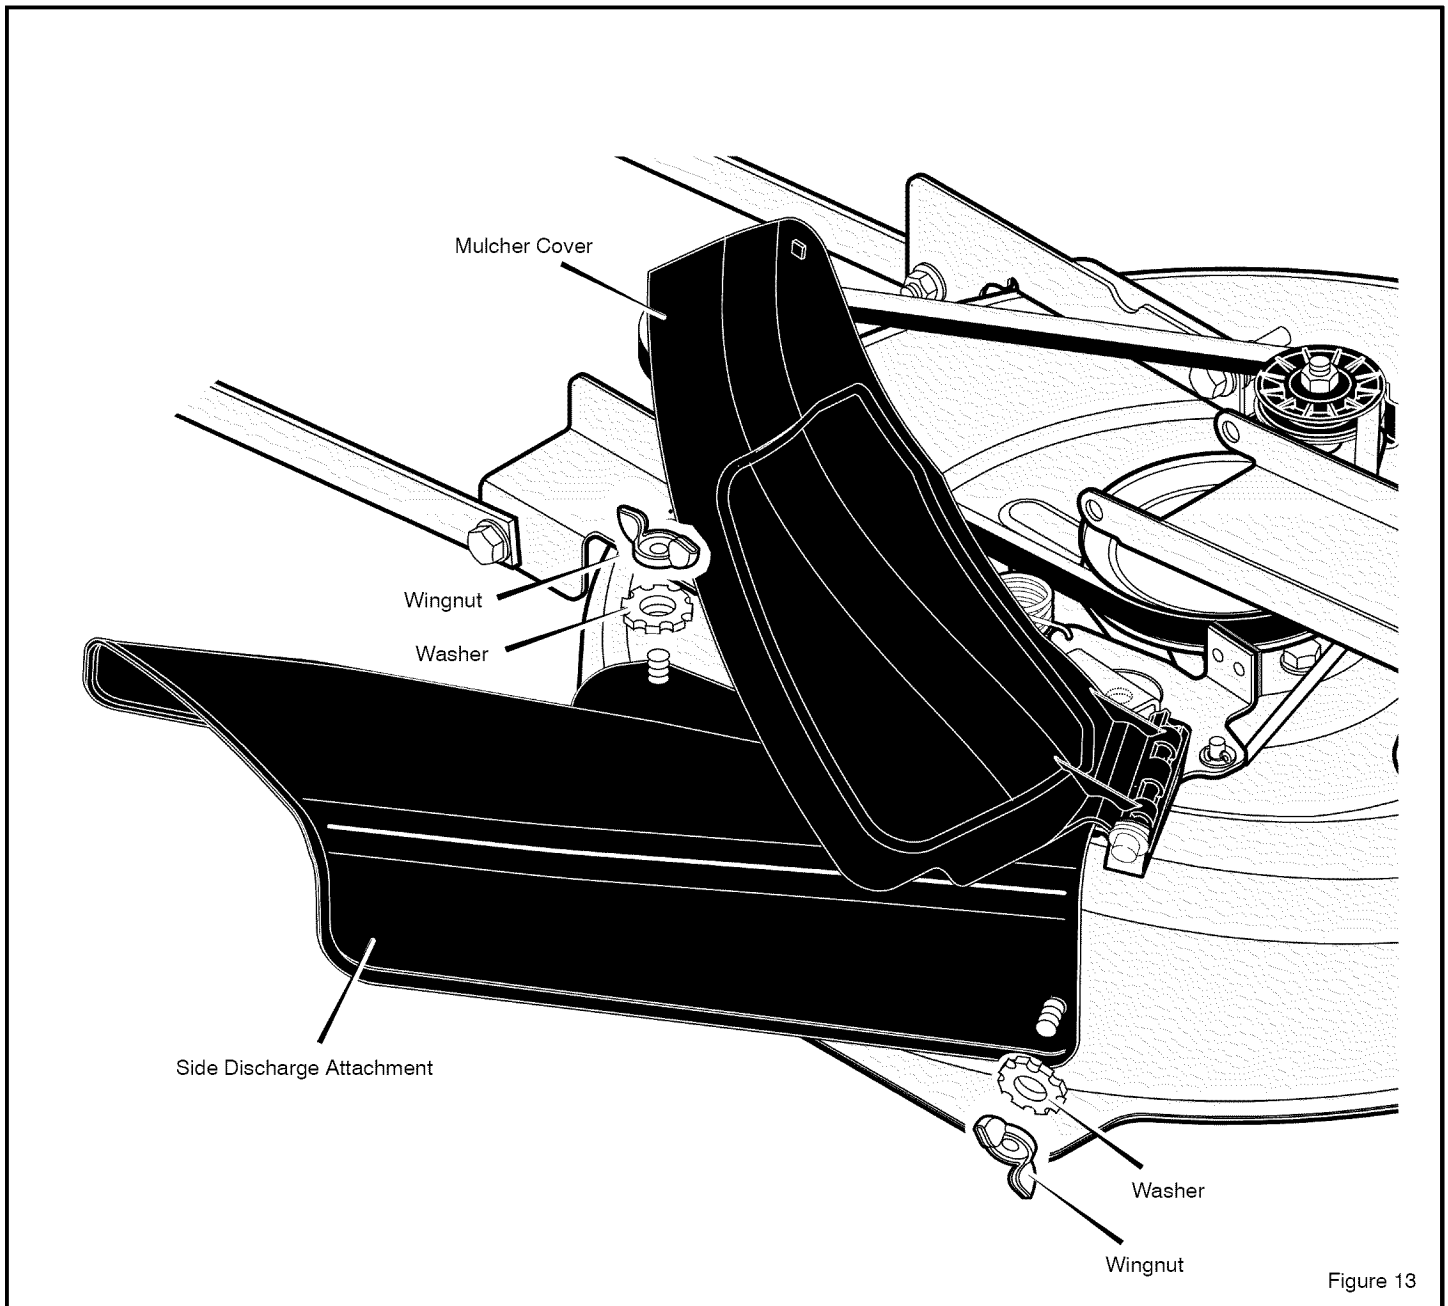

Figure 13
1. Remove the fasteners that secure the **mulcher cover** (see Figure 13).